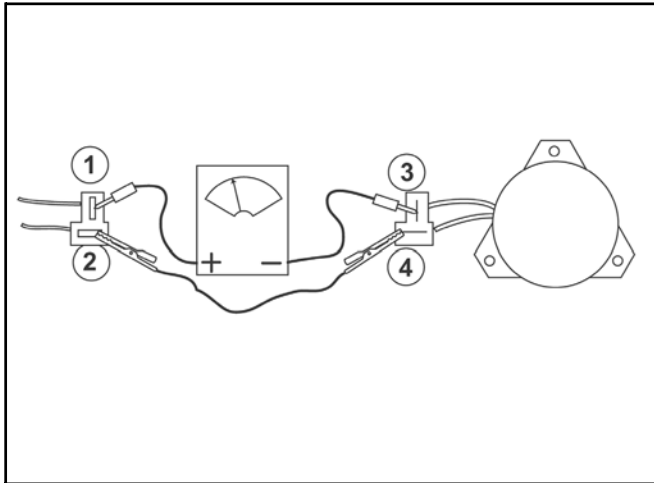

Figure 2
4. Connect the positive meter lead to the tractor terminal (1) of the clutch wire, Figure 2.
5. Connect the negative meter lead to the corresponding wire terminal (3), Figure 2.
6. Connect a short jumper lead from terminal (2) to (4), Figure 2.